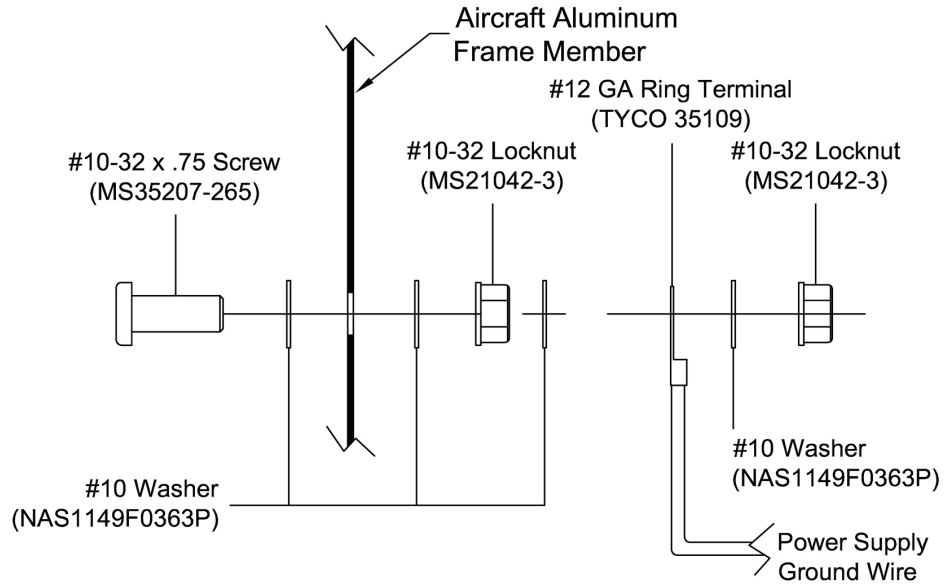

Figure 4 Ground Detail
- 2.8. Refer to Figure 4 for Ground wire installation. All Bonding and Grounding will be in accordance with AC 43.13-1B, Chapter 11, Section 15.